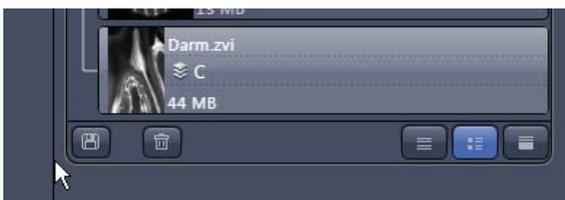

Fig. 4-264 Enlarging the image view
- In case long filenames are used the whole section can be dragged to the left and thereby enlarged (Fig. 4-264).